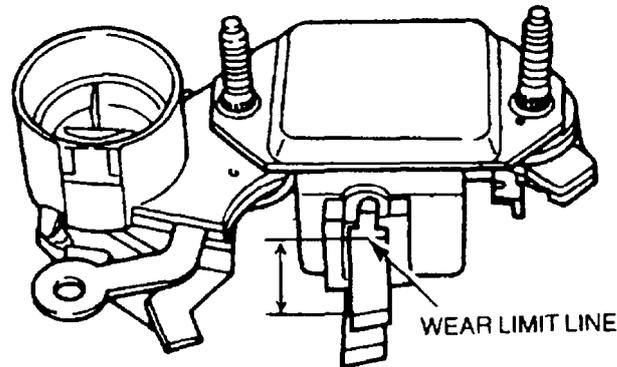

Figure 297 Brush Length Inspection
- (8) Measure the length of the brushes and check that the length is between 5.5 to 12.5 mm (0.22 to 0.49 in). Replace the brushes if they are less than the specified length or worn to the line scribed on the brush (Figure 297).